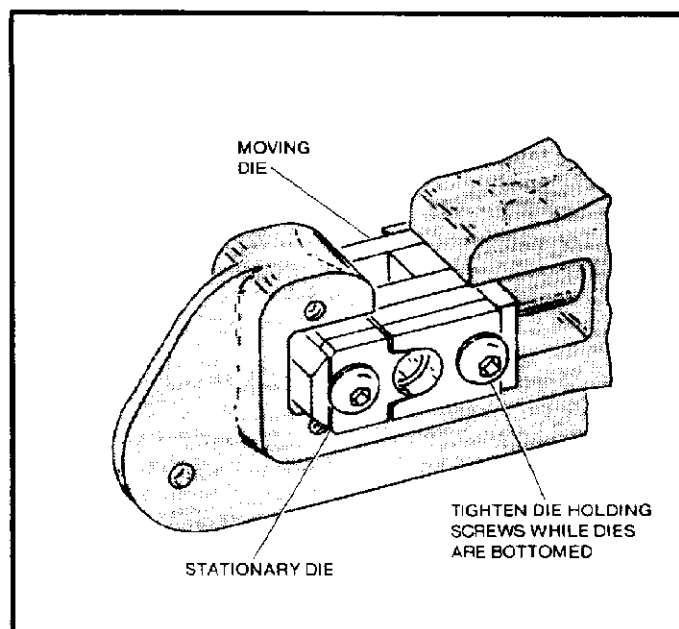

Figure 2
- Tighten both die holding screws while dies are bottomed. See Figure 2.